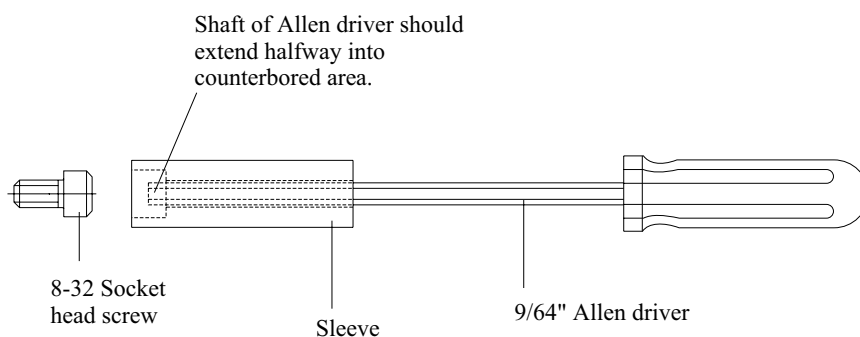

Figure 6-5. Detail of the sleeve on the Allen driver
Step 5: Now you are ready to remove the screws that secure the crucible to the crucible mounting flange. This procedure involves using the special Allen tool provided with the source, which consists of a standard 9/64" Allen driver with a sleeve fitted over the shaft (see Figure 6-5). If you are proficient in the use of this tool, skip the practice exercise described below and proceed directly to step 6 of this procedure. If you are not experienced with this tool, follow the instructions below.